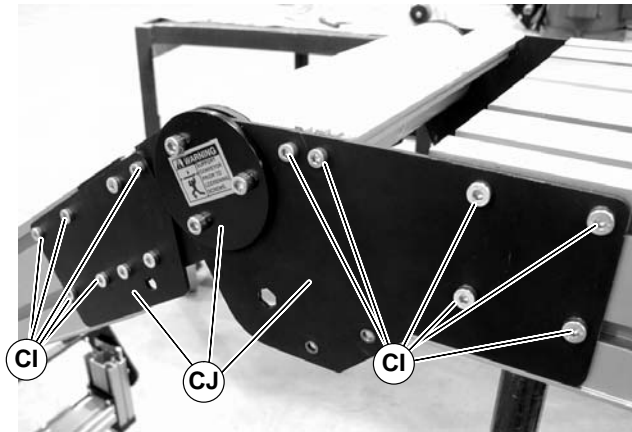

Figure 74
3. On one side of knuckle, remove screws (CI of Figure 74) and knuckle plate assembly (CJ).
3. On one side of knuckle, remove screws (CL of Figure 74) and knuckle plate assembly (CM).